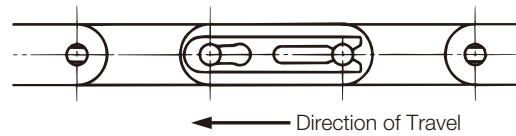

Fig.21 Spring Clip Installation
- 3) In general, the spring clip should be installed in the direction opposite to chain travel, as shown in the drawing below (Fig.21).